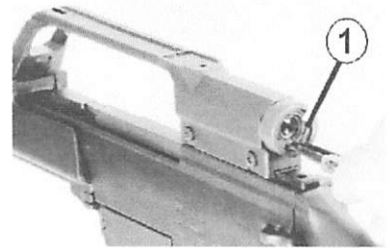

Fig. 70 Replacement of the optical sight
- ⇒ Take off the rubber eyepiece (Fig. 70/2) that is at the rear of the carrying handle.
- ⇒ Remove spring ring (Fig. 70/1) using the circlip pliers.